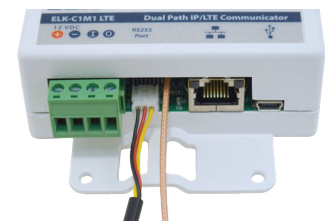

FIGURE 3
5. Replace the front cover on the C1M1 Alarm Communicator, ensuring the secondary antenna cable is properly routed through the opening at the bottom of the C1M1 housing (See Figure 3).